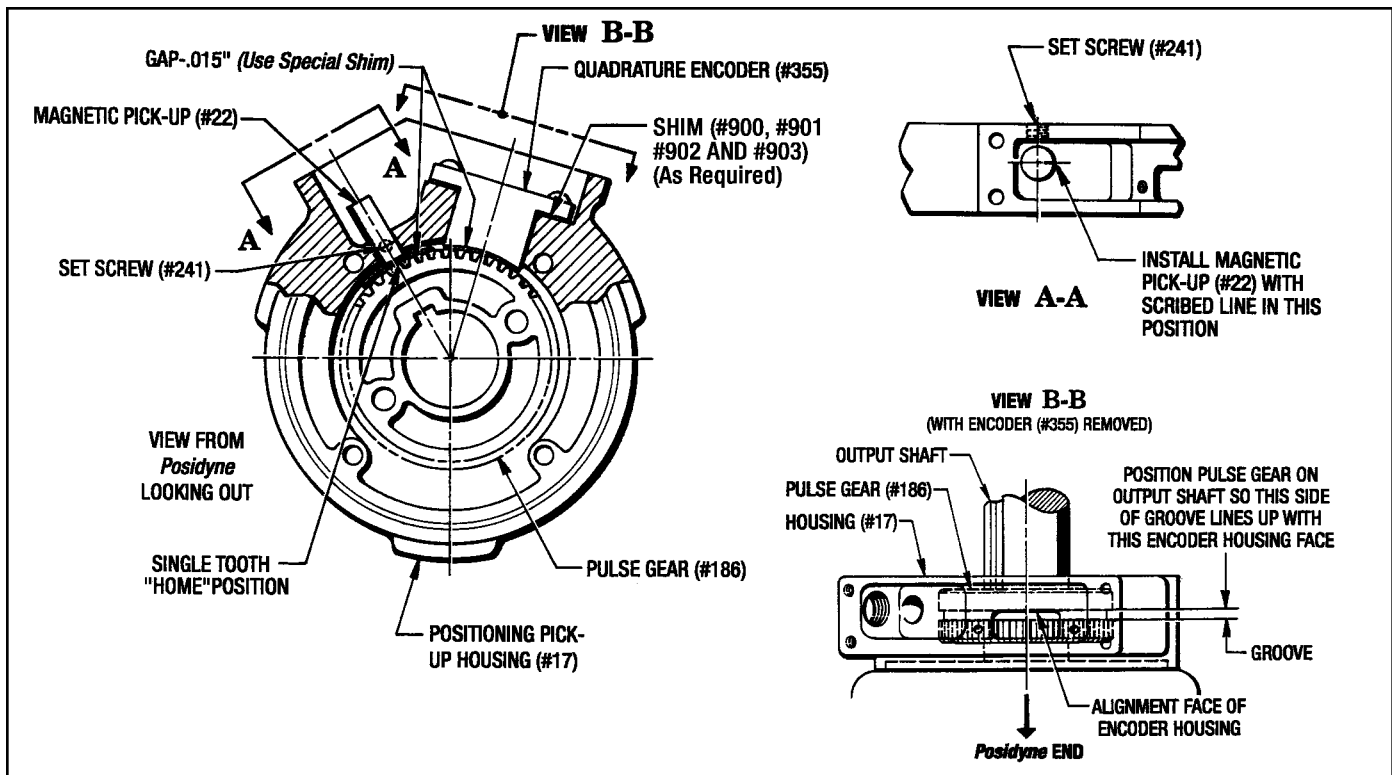

Figure 9.22 - Quadrature Encoder Position Sensors Installation
A. QUADRATURE ENCODER (See Figure 9.22)
2. Position the Encoder (#355) so the (2) mounting holes are lined up with the holes in the housing. Insert the Sensor into the slot and attach with (2) Screws (#226).
3. Check the Gap between the Pulse Gear and the Quadrature Encoder (#355) with the Special .015" Shim that you made. If necessary, remove the Encoder and place Shims (#214) under the Encoder. (Usually .015" is sufficient.) Re-attach the Encoder (#355) and re-check the Gap. (See Figure 9.22)
B. MAGNETIC PICK-UP SENSOR (See Figure 9.22)
2. Insert the Magnetic Pick-Up Sensor (#22) into the hole with the Scribed Line in position as shown in Figure 9.22, View A-A.